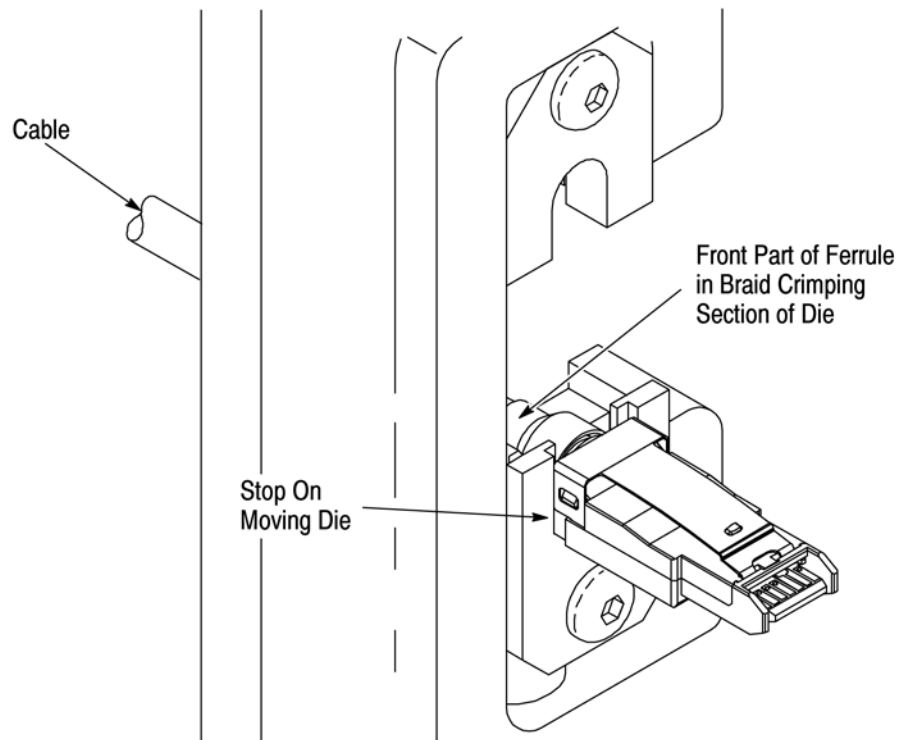

Figure 2
1. Place the ferrule on the moving die, with the cable extending out the back side of the die. Make sure that the front part of the ferrule is positioned in the braid section and the back part of the ferrule is positioned in the insulation section. See Figure 2.